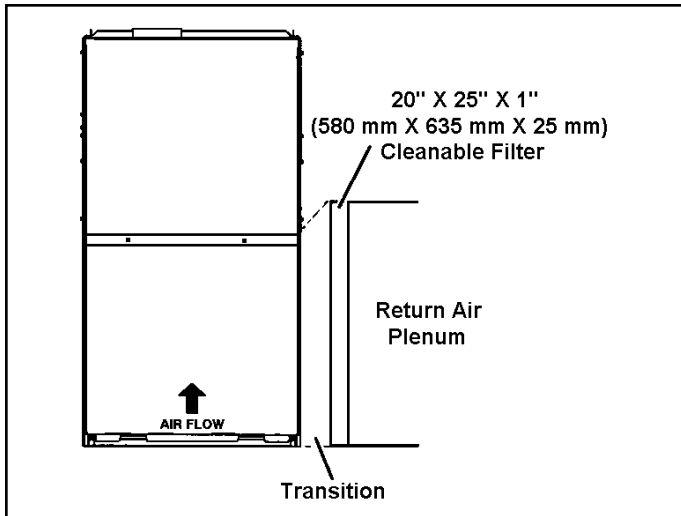

Figure 9. Single Side Return Air (with transition and filter)
1. Single side return air with transition to accommodate 20 x 25 x 1 in. (508 x 635 x 25 mm) cleanable air filter. (Required to maintain proper air velocity.) See Figure 9.
2. Single side return air with optional return airbase. See Figure 9.